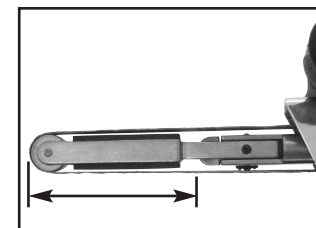

Fig. 13
7. Always work off the return side (underneath) of the abrasive belt in the area shown in figure 13. This will ensure constant tracking and reduce down time of the tool.